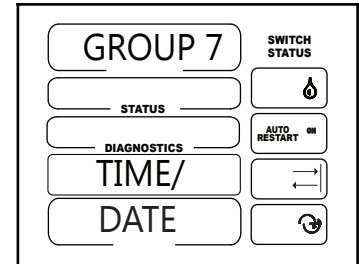

Figure 43-1
2. GROUP 7 will be shown in the display screen. See figure 43-1.